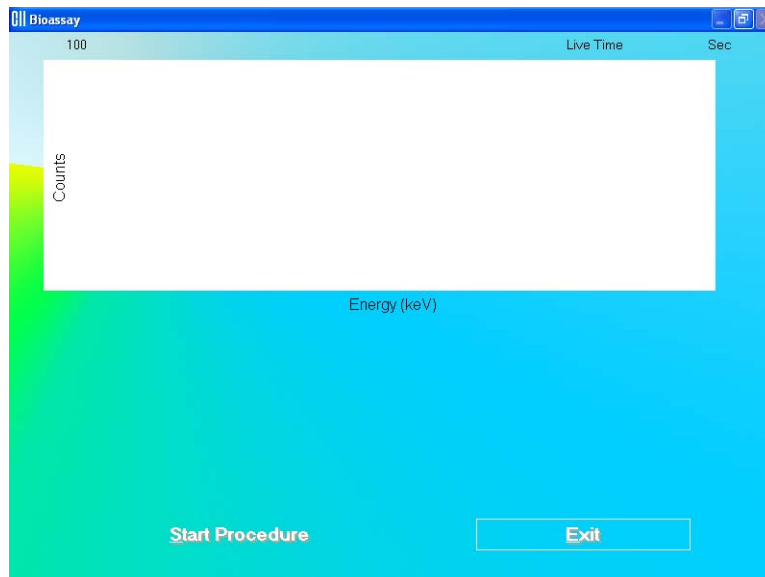
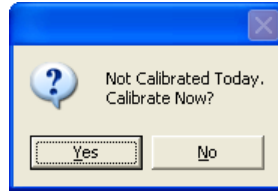

Figure 11-18
Figure 11-19
2. To begin the measurements, click the **Count** button. The Main Bioassay Measurement screen appears as shown in Figure 11-18.
**Note:** If calibration has not been performed, you will be prompted with the screen as shown in Figure 11-19. After the calibration is complete, the program will return to the Schilling Test measurement screen shown in Figure 11-18.
Click the  button or press the *Y* key to exit the measurement cycle. The Main Bioassay Measurement screen appears as shown in Figure 11-18. To restart the measurement for the selected Staff Member, click the  button or press *Alt+S*.